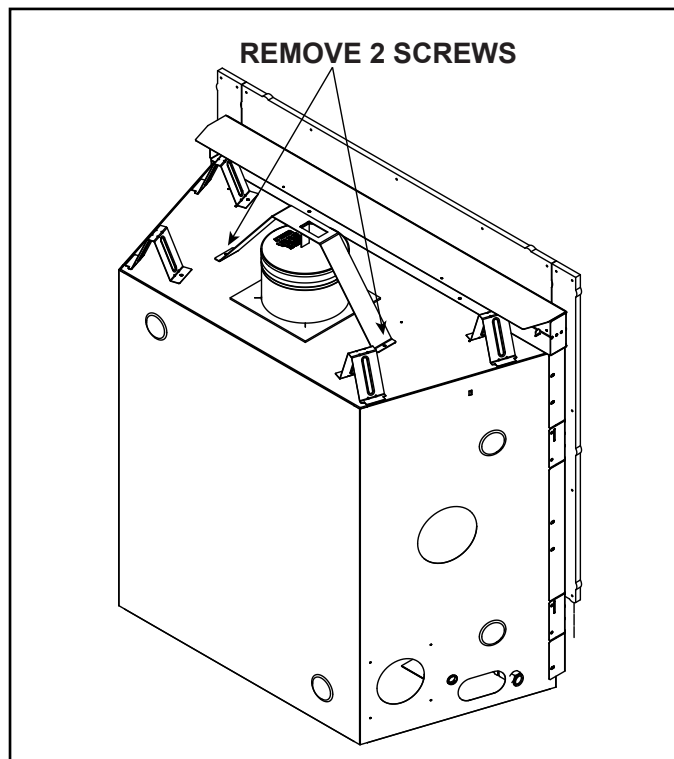

Figure 6.3 COSMO32-IFT - Shipping Support in Shipping Position
1. Remove two screws and remove shipping support. See Figure 6.3.